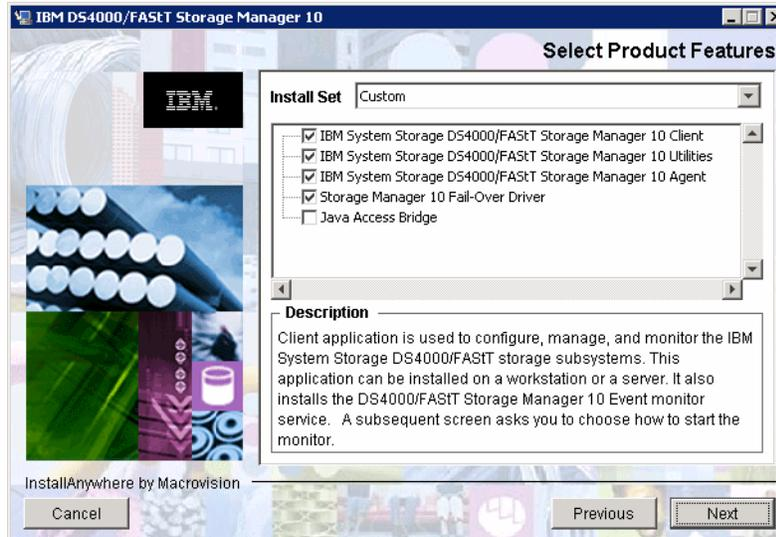

Figure 5-2 InstallAnywhere: Select Storage Manager components
As the name suggests, typical (full installation) installs all components and custom installation lets you choose the components, as shown in Figure 5-2. When installing Storage Manager on a desktop computer or mobile computer that does not have a Fibre Channel (FC) host bus adapter (HBA) Adapter, you will not be able to install any components other than the Storage Manager client.